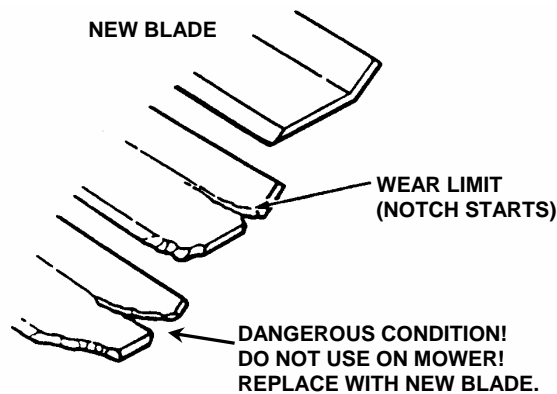

FIGURE 4.11
1. Inspect blade frequently for signs of excessive wear or damage. See Figure 4.11.
6. Inspect condition of blade. See Figure 4.11.